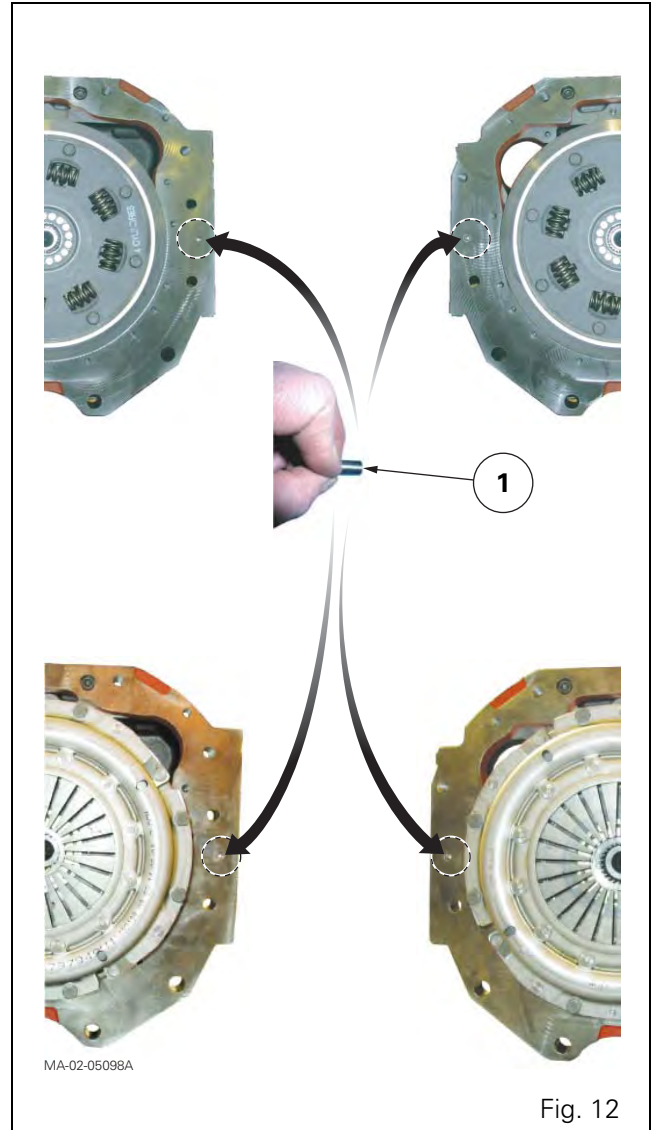

Fig. 12
24. Check that the dowels (1) are present on the engine (Fig. 12).